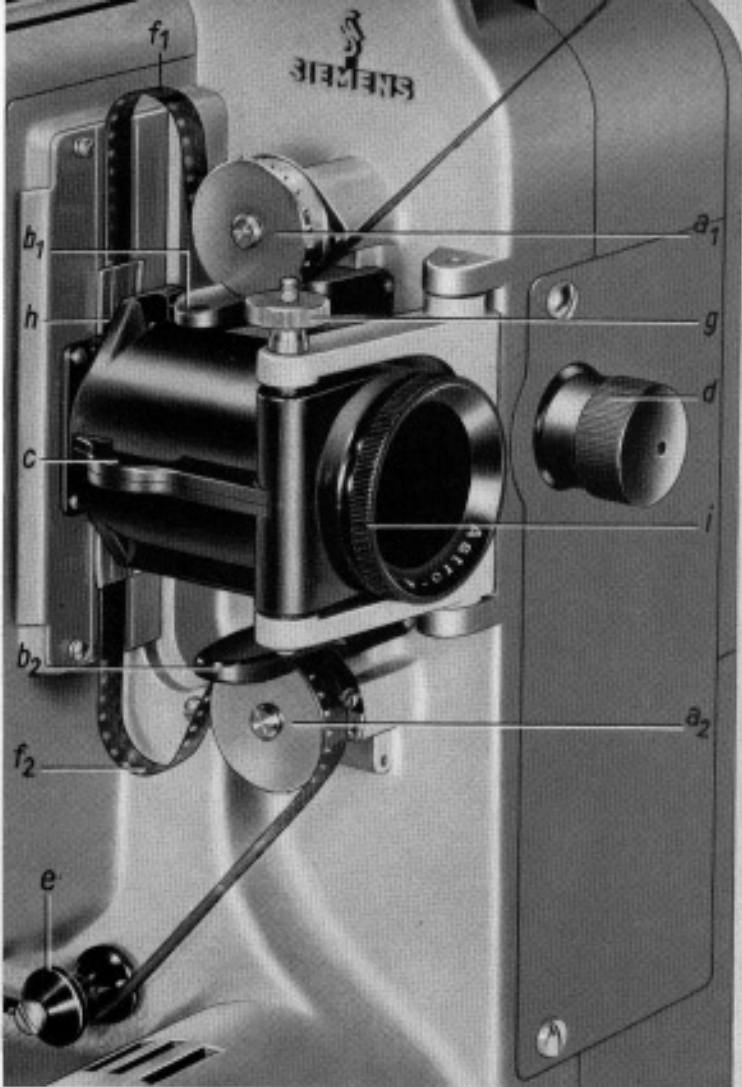

Fig. 20
7. Pull film gently up and down to check whether it runs freely through the film channel; also make sure that top and bottom film loops f₁ and f₂ (Fig. 20) are of equal size.
8. Thread film under front and rear guide rollers e (Fig. 20) and 10 (Fig. 1); attach end of film to empty reel.
8. Adjust focus of picture. Coarse adjustment: draw out or push in lens by hand; Fine adjustment: turn lens with aid of knurled ring (Fig. 20).
9. Adjust frame line. Adjust line separating two successive frames by turning frame-line control g (Fig. 20). Observe frame line and focus during projection and readjust if necessary.